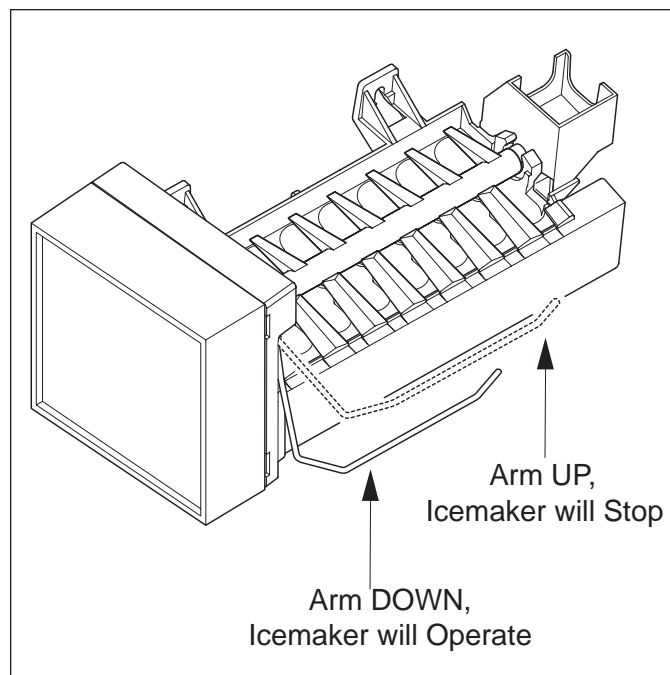

Figure 6-12. Stopping Icemaker
- If the ice level arm sticks in the “up” position, ice production will stop (See Figure 6-12).